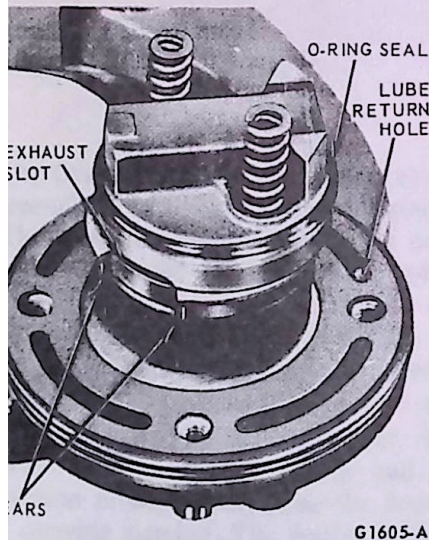

FIG. 18 Valve and Pressure Spring Installation
13. Install the pump valve assembly O-ring seal onto the pump valve assembly being careful not to twist the seal (Fig. 18).
14. Place the pump valve assembly on top of the retainer end plate with the large exhaust slot on the pump valve in line with the OD notches of the previously assembled parts. The stack of parts must be fully seated. If the pump valve has been installed correctly, the relief valve stem will be in line with the lube return hole in the pump housing plate (Fig. 18).
valve assembly. Vaseline may be placed in the spring pockets to hold the springs in position (Fig. 18).